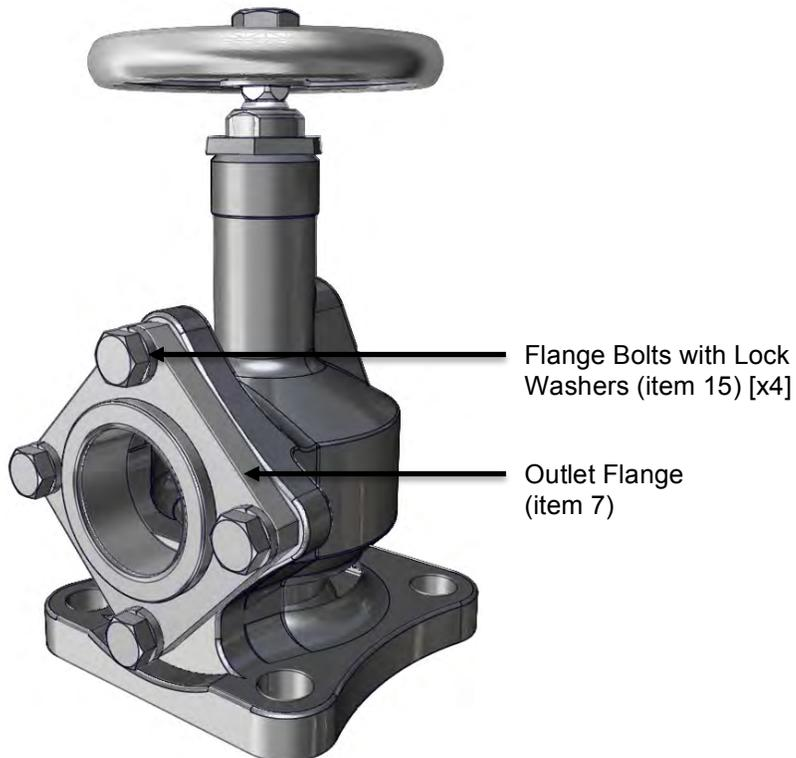

Figure 7-4 Reassembly Steps 7.2.15 through 7.2.16
- 7.2.15 Stretch the outlet O-ring (item 13) onto the outlet flange (item 7). Do not twist the O-ring. Push this assembly into the side port of the body; see Figure 7-4.
- 7.2.16 Screw in the flange bolts with lock washers (item 15) hand tight, and then wrench-tighten the bolts using the alternate tightening pattern. Do not exceed 45 foot-pounds. Check for uniform spacing between the two flange faces. Correct by loosening and retightening; see Figure 7-4.